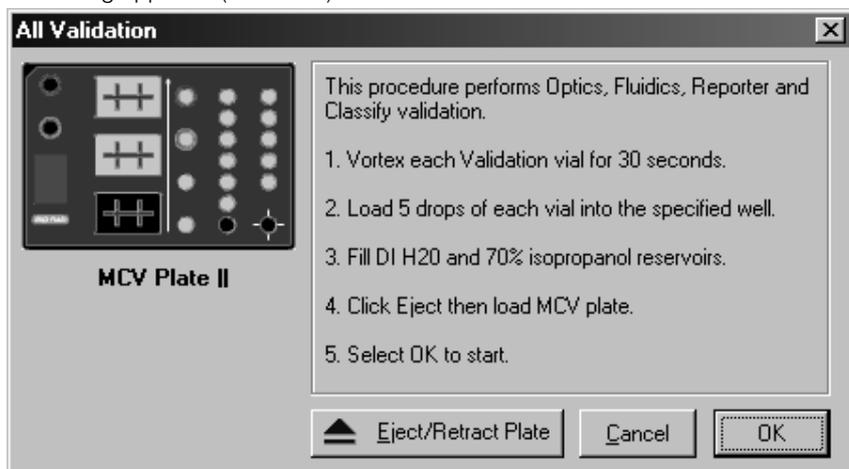
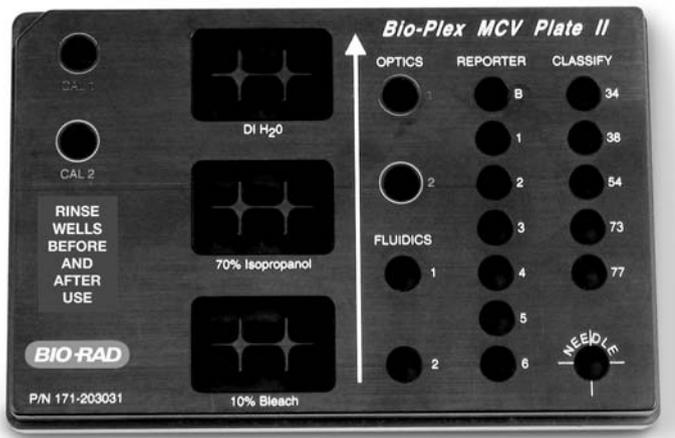

Fig. 2B.
Fig. 3. MCV plate II.
6. Enter user name and control number. Select All. Select OK. The following dialog appears: (Figure 2B)
- Place 5 drops each of bead into the respective wells on the MCV plate II (see Figure 3 below or Figure 2B). Store beads at 4°C as soon as possible after use. Protect the beads from light.